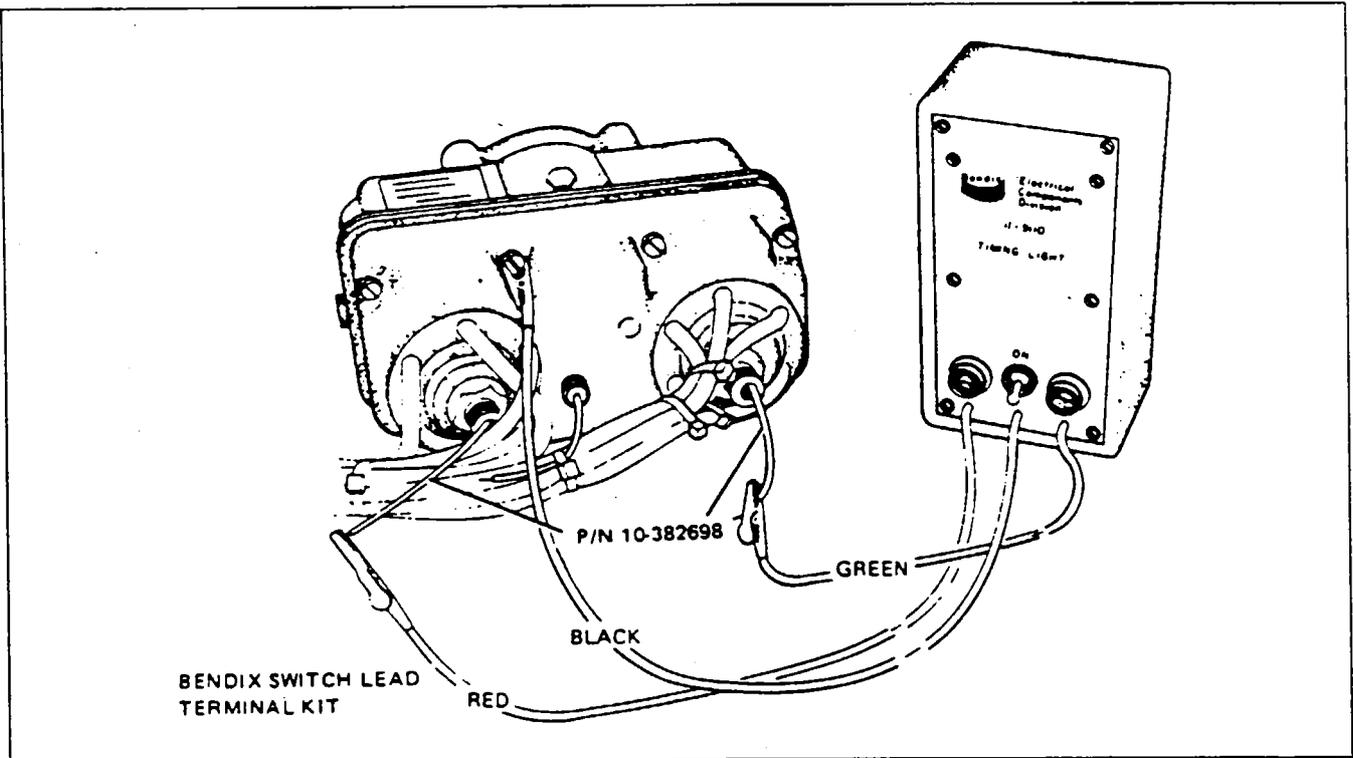

Figure 74-4. Timing Light connected to Magneto
*It is recommended that short adapter leads be fabricated to facilitate connecting the timing light unit to the switch outlet terminals of the cover. (Refer to Figure 74-4.)*
11. Attach red lead from the 11-9110 timing light to the left switch adapter lead, the green timing light lead to the right switch adapter lead and the black timing light lead, to the magneto housing. (Refer to Figure 74-4)